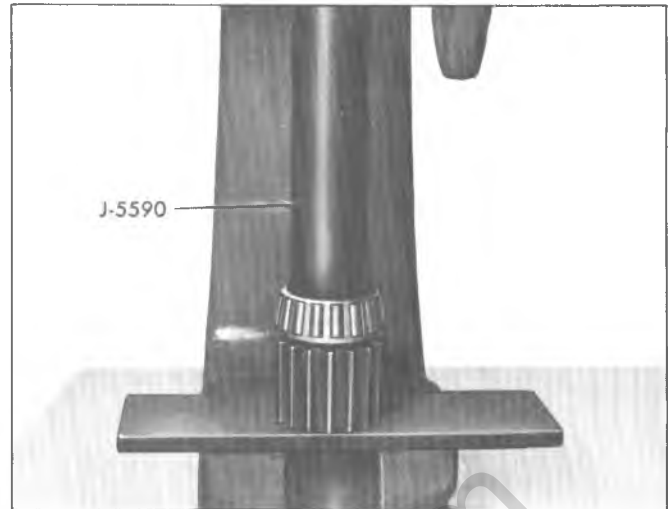

Fig. 9D--Installing Rear Output Shaft Front Bearing
- Using Tool J-5590, press front bearing on shaft as shown in Figure 9D.